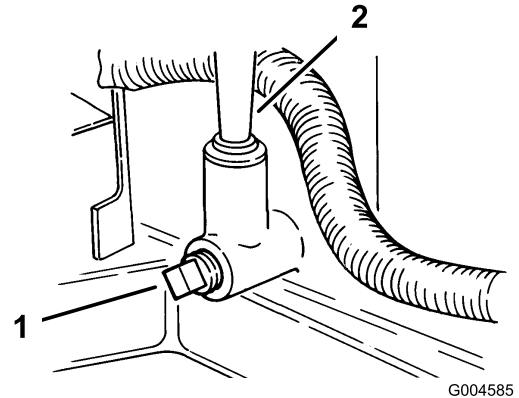

Figure 22
9. Place a drain pan below the oil dipstick/fill hole and remove the drain plug (Figure 22).